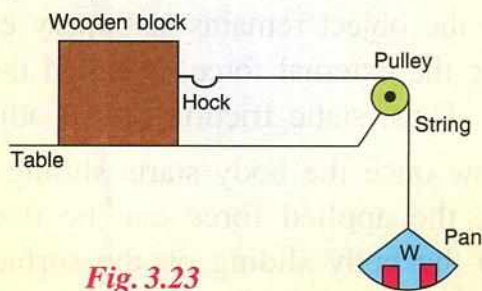

Fig. 3.23
1. Mount a pulley at the edge of a table as shown in Fig. 3.23. Place a wooden block provided with a hook, on the table. Tie one end of a string with the hook and pass its other end over the pulley with a pan. Now gradually increase the weights in the pan till the block just begins to slide on the table. Note the weight W_1 .